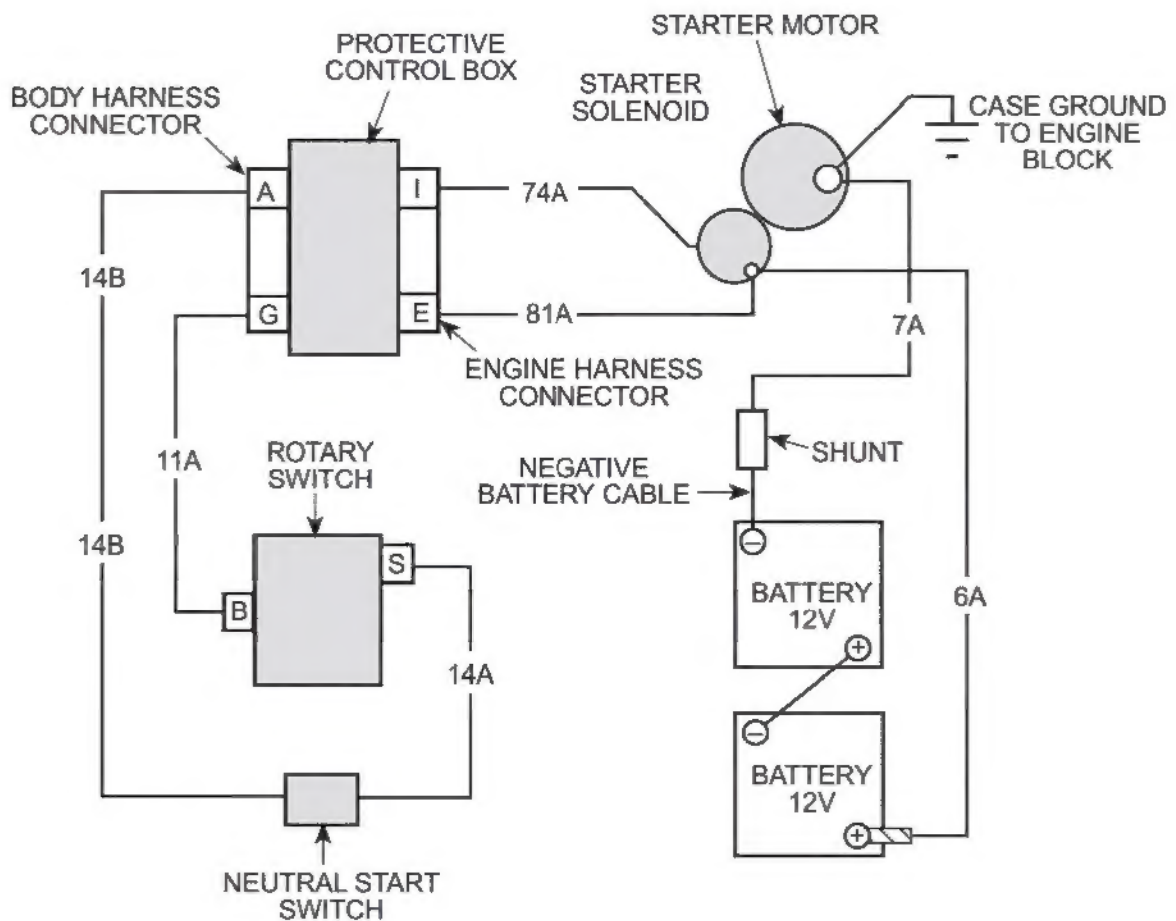

Figure 12-1. Starting System Schematic.
A. BATTERY SHUNT TEST AND REPLACEMENT (Figure 12-1)
B. STARTER TESTING (Figure 12-1)